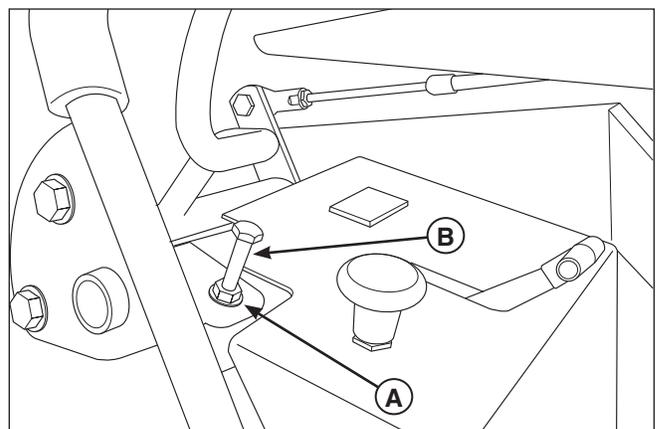

Figure 31. Reverse Speed Balancing Adjustment
1. Loosen the securing nut (**A, Figure 31**).